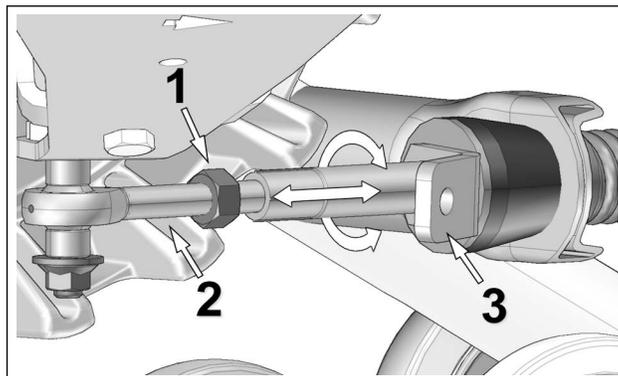

Figure 5
- Loosen jam nut (1). Adjust length of rod end (2) by rotating the steering limiter support plate on (3) the stabilizing arm. Use a 30 mm wrench to rotate support plate and obtain 254 mm above the ground. Refer to Figure 5.
*NOTE:* The stabilizing arms on front Track Systems incorporate a steering limiter support plate (3) that is bent. This plate should be positioned inwards, towards the vehicle.